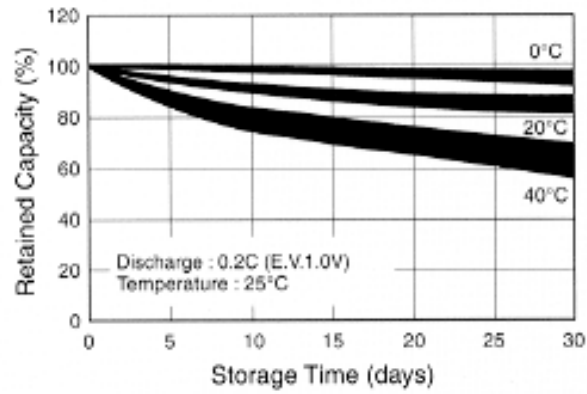

Figure 2-21. NiMH Battery Storage Characteristics
It is normal for NiMH batteries to self-discharge during storage (Figure 2-21) and to degrade to 80% of original capacity after 12 months of continuous use.
- Storing the battery in extreme hot or cold places will reduce the capacity and lifetime of the battery. The battery will discharge faster at higher ambient temperatures (see Figure 2-21).